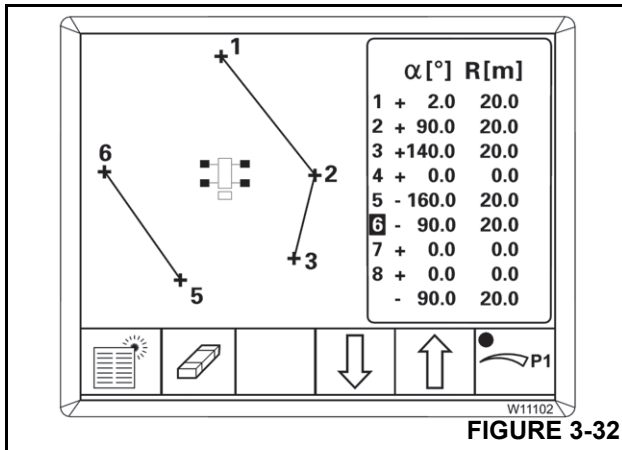

FIGURE 3-32
1. Delete the subsequent point, e.g. point (4) (Figure 3-32), point data 0.0, see *Deleting Points*.
2. Enter the next point, e.g. point (5) at -160° and 20 m.